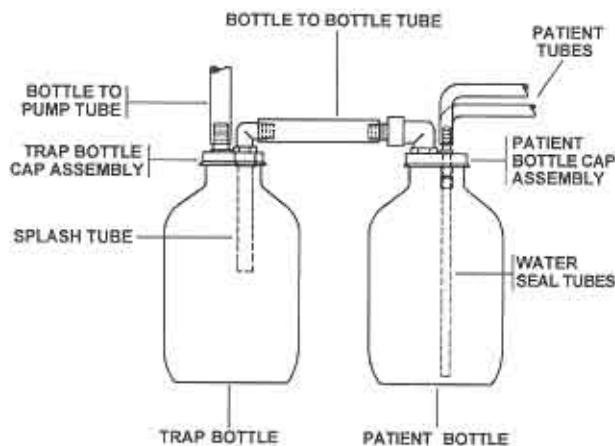
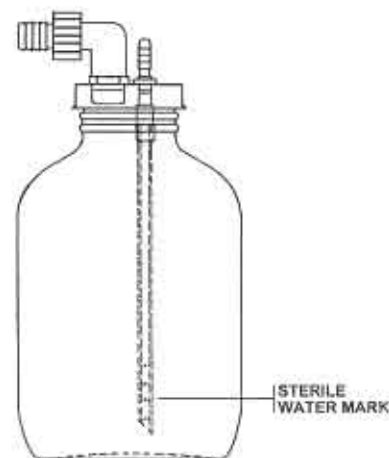

Figure 3-1. Patient drainage system.
Figure 3-2. Water seal.
(1) Verify that the components of the drainage unit are assembled in accordance with the procedures contained in paragraph 2-2 and illustrated in figure 3-1.
- (2) Ensure that the power switch is in its "OFF" position or depress the switch to its "OFF" position.
- (3) Disconnect the two patient tubes and the bottle to bottle tube from the patient bottle cap swivel connector.
- (4) Unscrew the patient bottle cap assembly.
- (5) Pour sterile water into the patient bottle until it reaches the 2-cm mark on the graduated water seal tubes as illustrated in figure 3-2.
- (6) Replace the patient bottle cap assembly.
- (7) Reconnect the two patient tubes and the bottle to bottle tube to the patient bottle cap assembly.
- (1) Verify that the components of the drainage unit are assembled in accordance with the procedures contained in paragraph 2-2 and illustrated in figure 3-1.